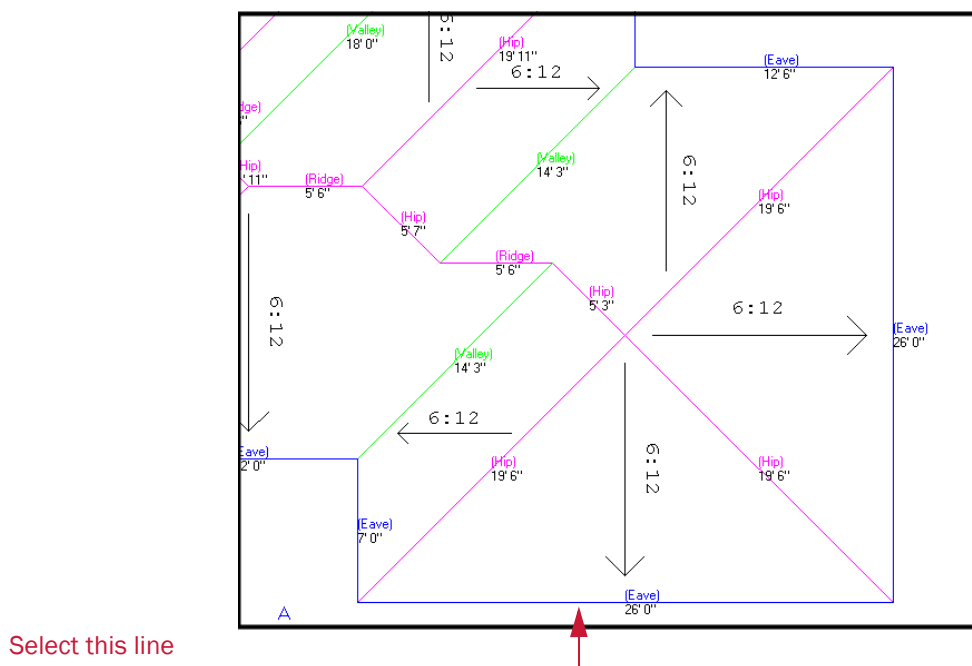

Figure 2-4 The Place Dormer dialog box
3. Select the eave line indicated in *Figure 2-4*. This is where you will place the new dormer.